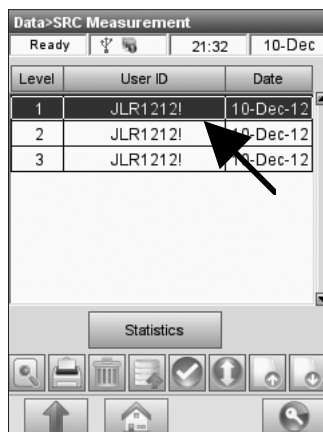
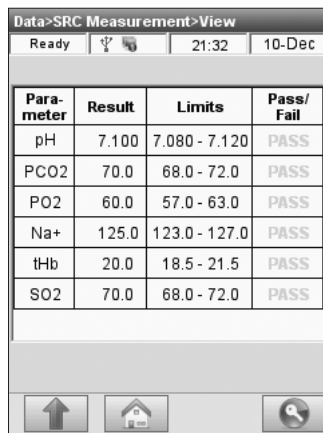

Fig. 6-6 SRC Measurements
Fig. 6-7 View SRC Results
3. In the **<Data - SRC Measurement>** screen (Fig. 6-6), select a measurement and press the **<View>** button  to display the measurement results (Fig. 6-7).
5. To print individual results, highlight the desired measurement (Fig. 6-6).